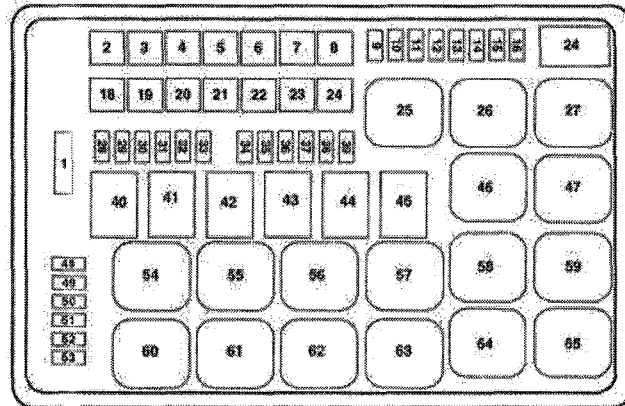

Fig. 2 Fuse Locations
4. Refer to fuse location diagram for fuse cavity locations (Fig. 2).
27. Install the new 10 amp fuse provided in the repair kit into cavity number 53 of the PDC, for location see (Fig. 2).